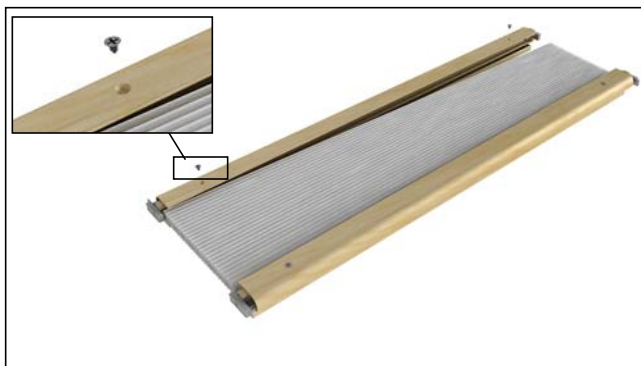

Figure 2
2. Remove the #6 x 1/4" screws on back side of pull bar to remove pull bar from fabric adapter if necessary. See figure 2. Remove optional interior shade stack cover if necessary.